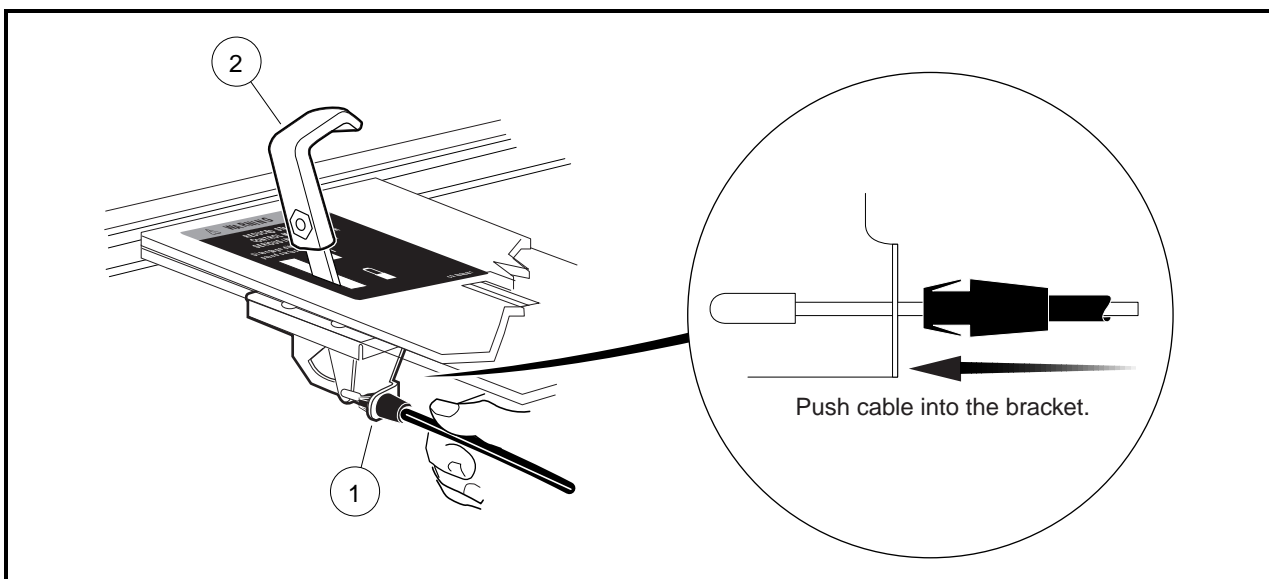

Figure 16-114 Differential Cable Installation
- 5.4. Push the cable toward the front of the vehicle to secure the cable to the bracket (**Figure 16-114, Page 16-46**).